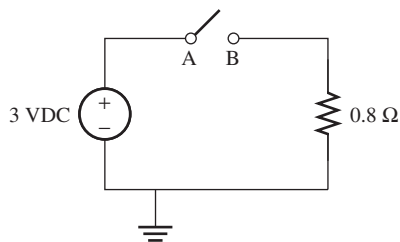

FIGURE P15.26 Circuit for Problem 15.26.
- 15.26** (B) Figure P15.26 shows a basic flashlight circuit. When the switch is opened, a spark occurs across its contacts. What is the maximum power in this spark?